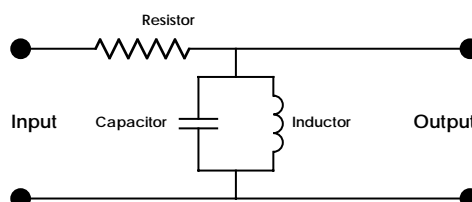
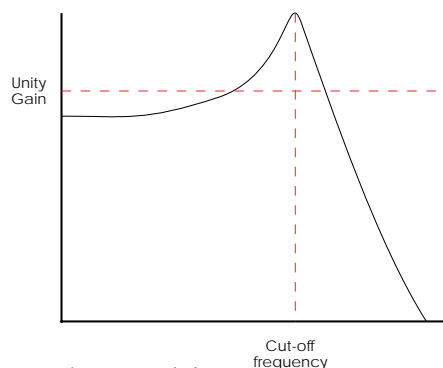
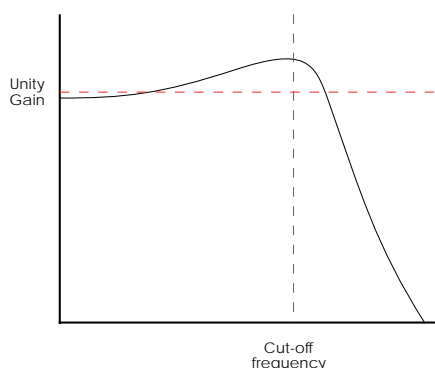

Figure 12: A simple
Figure 13: A typical resonant low-pass filter response.
Figure 14: Resonant low-pass filter with low Q.
Answer 2: Lots. When you combine resistors and capacitors with a third component called an inductor, or use them in active circuits with two or more poles, you can make relatively simple circuits that have a large peak in the response at a particular frequency (see Figure 12).
Figure 13 (on page 140) shows an idealised response for a resonant low-pass filter. As you can see, the filter still attenuates the frequencies far above the cutoff frequency, but a band around the cutoff is boosted. Furthermore, the low frequencies are slightly attenuated. (For some reason, this is rarely shown in diagrams of this sort.) The width of the resonant peak is described by a parameter called its 'Q'. If Q is low, the peak is broad, but as Q increases, the peak in the filter response becomes more and more pronounced and creates dramatic tonal changes. See Figures 14 and 15 on page 140.
► later instalments of Synth Secrets. But, in the spirit of all things filter-y, let's briefly touch upon some of the possibilities suggested by Figures 14 to 16:
Strangely, if the contours were trapezoids, the two solos would sound identical, provided that the Odyssey's contours did not reset to zero at the start of each note (see Figures 12 and 13, on page 134). Hang on... what's all this about resetting to zero? Check out Figure 14 (also on page 134). This shows the contour of a series of 'reset to zero' trapezoid transients. Some synths reset in this way, and it can lead to a very disjointed sound indeed. Because of their slower Attacks and Releases, this is particularly noticeable on some string ensembles where the single envelope generator resets every time it is initialised. Some early polysynths do this, too. It's horrible, and sounds like the instrument is swallowing its tongue. Glump!